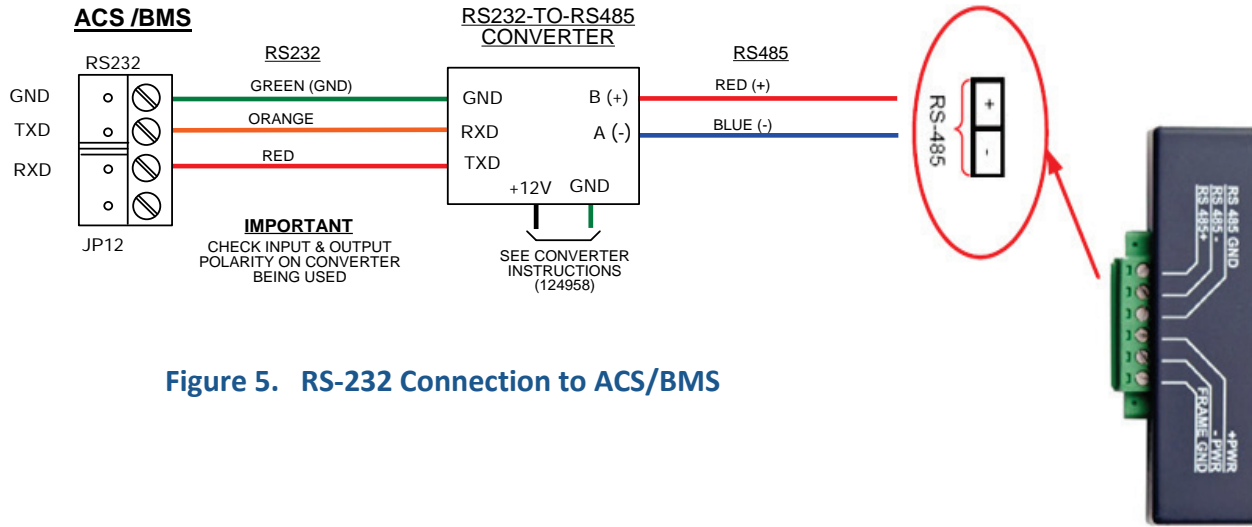
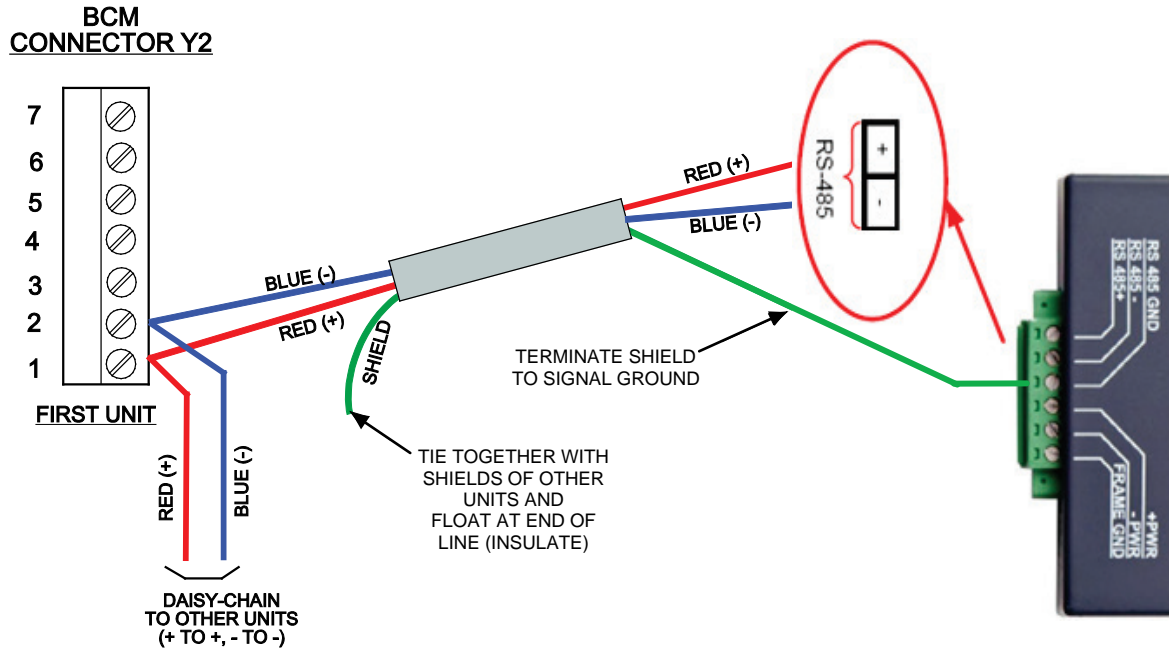

Figure 5. RS-232 Connection to ACS/BMS
Figure 7. RS-485 Connection to BCM
- Refer to Figures 5 and 6 to locate the internal RS-232 connector JP12 (BMS) or JP5 (BMS II/ACS) inside the wiring area of the ACS/BMS II/BMS.
- If a third party converter is used, connect the RS-232 Receive (RxD) and Transmit (TxD) wire leads to the internal RS-232 connector (JP12 or JP5) as shown in Figures 5 and 6. DO NOT connect the wire shield on this side of the converter.
- On the RS-485 side of the converter (Figure 5 to Figure 7), connect the wire leads as follows: